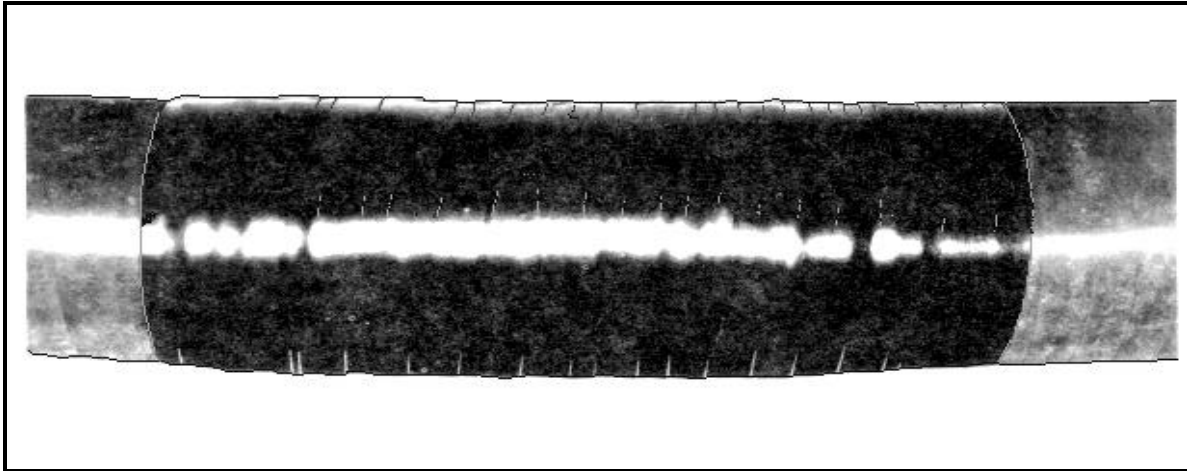

Figure 27-11. Completed tape patch
- Keep some pressure on the hose so that it stays cylindrical. A tape patch is shown in Figure 27-11.